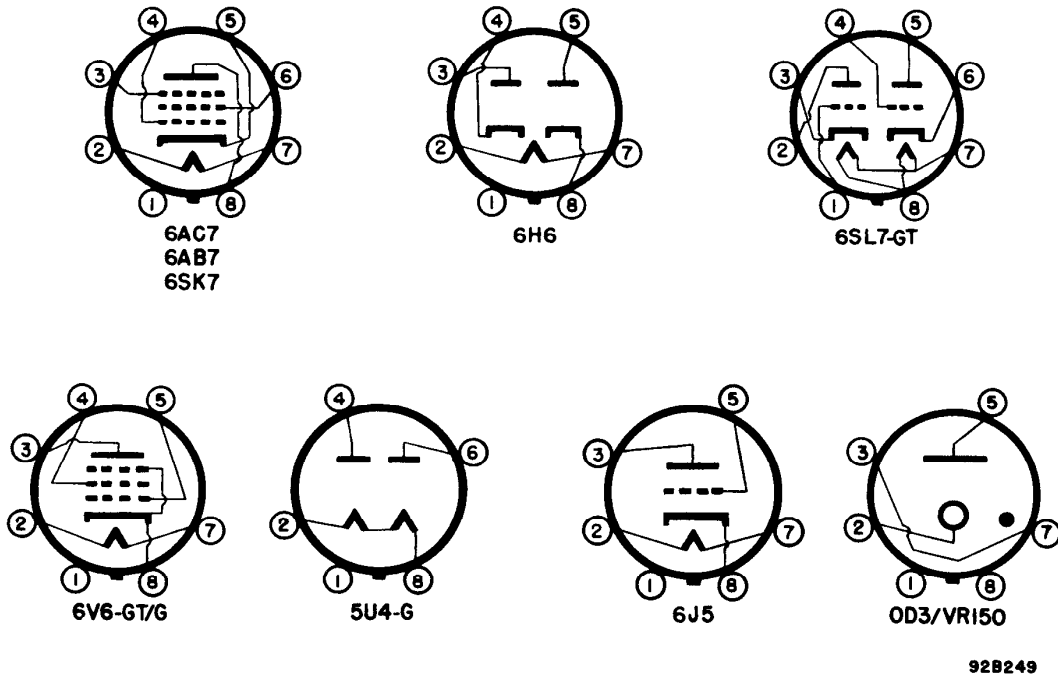

Figure 7-6. Radio Receiver Model S-36A, tube socket connections.
a. Voltage Chart. - Refer to Fig. 5-2. for the tube socket terminal voltages. Voltages shown are those between the terminal and ground (chassis) unless otherwise specified. To identify the tube socket connections, refer to Fig. 7-6. The readings were taken with an RCA Volt-Ohmyst Junior analyzer using 20,000 ohm per volt sensitivity. To prepare the receiver for measurement, disconnect the antenna, connect a jumper between the antenna terminals A₁, A₂ and GND, disconnect the speaker and replace with a 5000-ohm 10-watt resistor across the 5000-ohm output terminals or a 500-ohm 10-watt resistor across the 500-ohm terminals, and set the controls as follows:
b. Resistance Chart. - Refer to Fig. 5-3. for the tube socket terminal to ground (chassis) resistance measurements. To identify tube socket connections, refer to Fig. 7-6. The readings were taken with an RCA Volt Ohmyst Junior analyzer. To prepare the receiver for measurement, disconnect the a-c line cord and set the controls as follows: